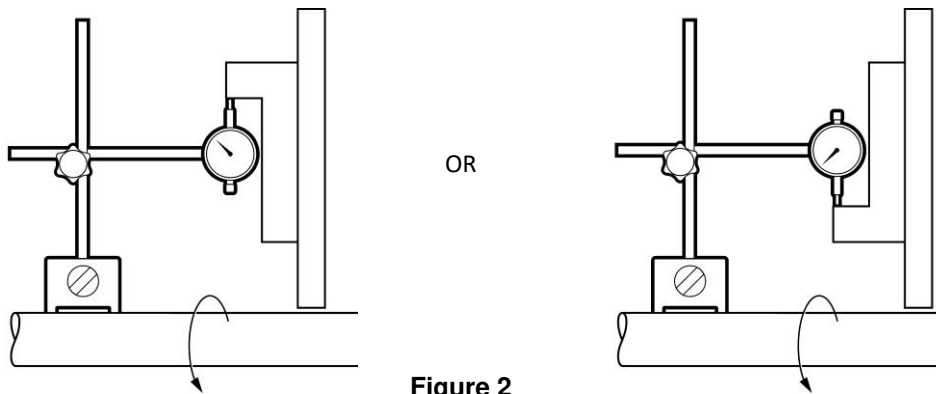

Figure 2
3.4 Concentricity of Mounting Bracket: With the dial indicator mounted to the shaft, place the indicator tip on the pilot diameter and rotate the shaft. The Total Indicated Reading should be within value shown in **Table 1**. See **Figure 2** below.
Proper alignment is necessary to ensure that the friction disc track properly. Improper alignment will result in excessive wear to the friction material and the mating surfaces and generate heat and excessive drag. Improper alignment will also overstress the gear and the splined bore of the center plate. See Figure 2.